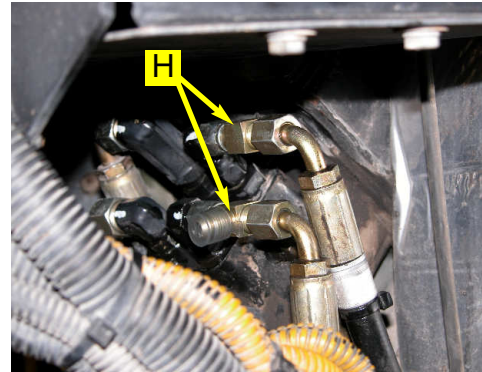

Figure 5b. Run-tee fitting.
- b. Install the provided run-tee fittings (**H**) onto both steering output ports of the steering orbital and reattach the steering hoses to the ends of the respective run-tee fittings. (Figure 5b.)